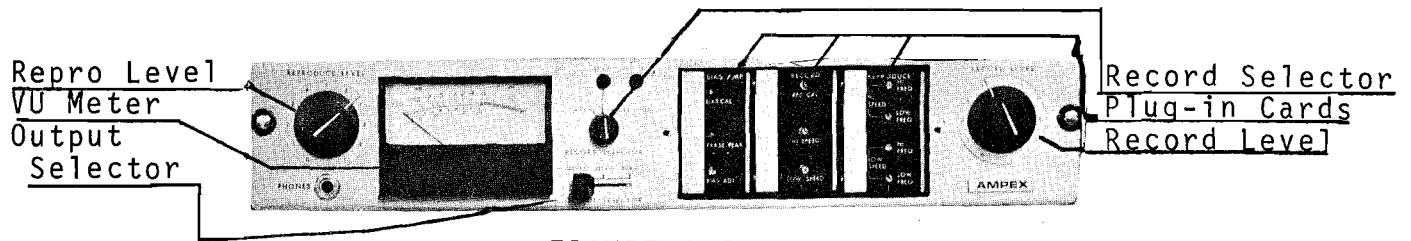

FIGURE 3-2
3.3 RECORD/REPRODUCE ELECTRONICS UNIT, FIGURES 3-2, 3-3